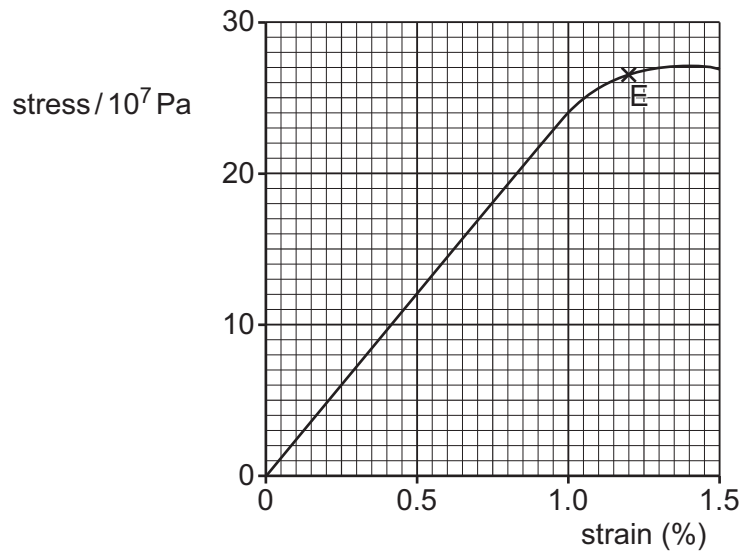

Fig. 3.1
- 3 (a) The variation of stress with strain for a metal P is shown in Fig. 3.1.
- (i) Use Fig. 3.1 to determine the Young modulus for P.
- (ii) On the line in Fig. 3.1, draw a cross (×) to show the limit of proportionality.